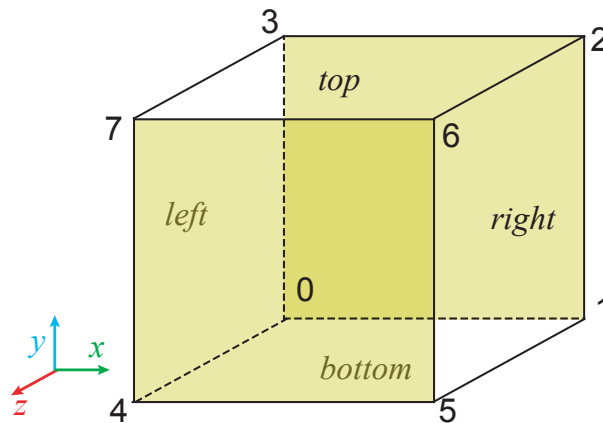

Fig. 4.1: The coordinate system and vertices numbering of single block for `blockMesh`.
`blockMesh` decomposes the domain geometry into a set of 1 or more three dimensional, hexahedral blocks. Each block of the geometry is defined by 8 vertices, one at each corner of a hexahedron. A simple example block and vertex numbering is shown in Fig. 4.1. The vertices are written in a list so that each vertex can be accessed using its label, remembering that OpenFOAM always uses the C++ convention that the first element of the list has label '0'.
- **vertices** contains all three-dimensional coordinates of each vertex (line 15-25), e.g. vertex 0 is $(0 \ \$ymin \ 0)$ and the vertex 5 is $(\$Lx \ \$ymin \ \$Lz)$, the coordinate system is shown in Fig. 4.1.
- **boundary** contains sub-dictionaries for defining boundary patches. The name (e.g. `right` or whatever the user like) of the sub-dictionary is the boundary patch name which will be used in filed data (see Section 3.2). There are two key entries, `type` and `faces` in each sub-dictionary. The `type` is typically set to `patch` or `empty` for a non-computing boundary patch of a non-three-dimensional case. `faces` is a list of block faces that make up the patch with a user defined name (see lines 43-46 for `right` patch or lines 67-71 for `frontAndBack` patch shown as transparent surface in Fig. 4.1)